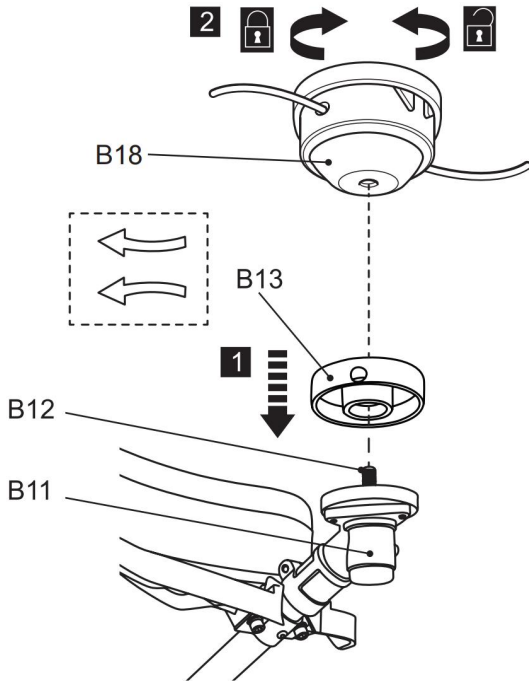

Fig. 6
4) Screw the trimming head (B18) counterclockwise onto the spindle (B12) and tighten it by hand while locking the spindle (B12) with the hex key (E5). Remove the hex key afterward (Fig. 6).